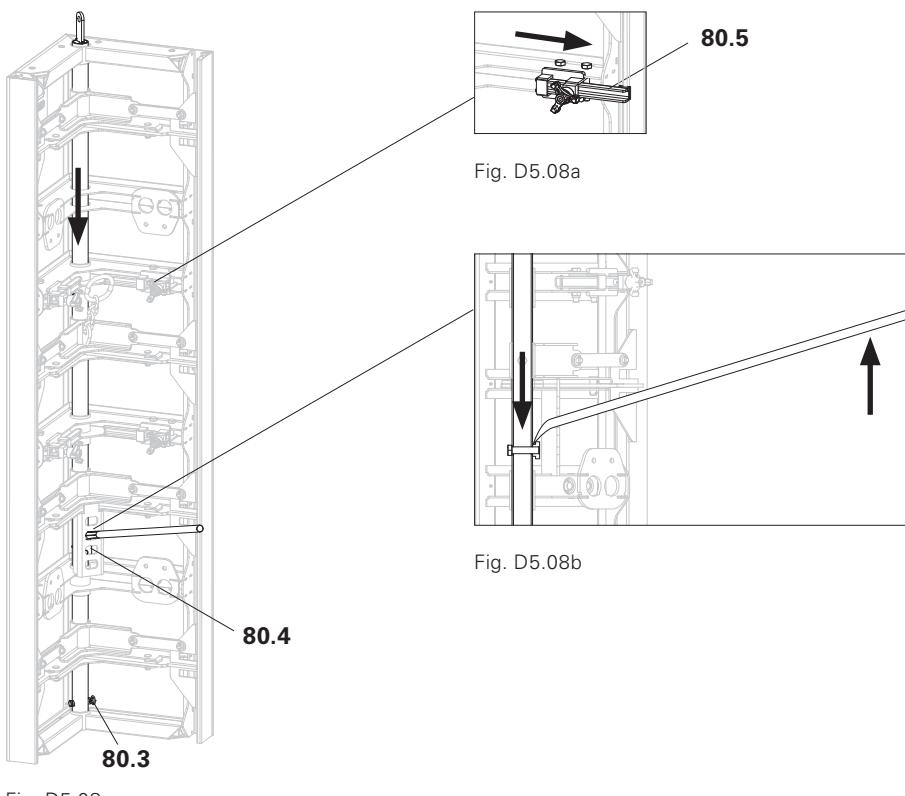

Fig. D5.08
2. Secure tube by means of pins 20 x 102 and cotter pins 5/1 (80.3). (Fig. D5.08 + D5.08a)
3. Push the slider of the Positioning Waler (80.5) over the profile until there is a flush fit and tighten the wingnuts. (Fig. D5.08 + D5.08a)